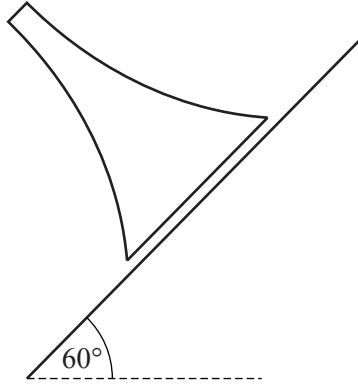

Fig. 4
- (ii) The solid in part (i) is placed with its larger circular face in contact with a rough plane inclined at  $60^\circ$  to the horizontal, as shown in Fig. 4, and you are given that no slipping occurs.